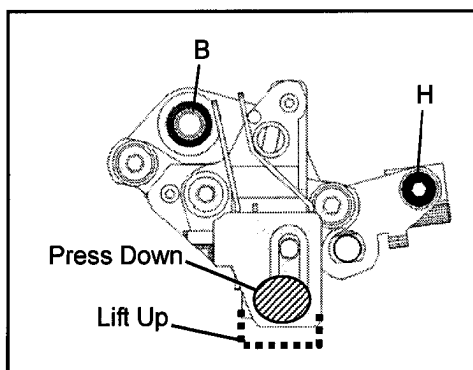

Figure 3-16-2
1. Press down and lift up the A/C Head lightly, and confirm that the CTL and CUE output level is within the specification. (Please refer to the figure 3-16-2 where to lift up and press down.)
2. If it is out of specification, adjust the height to maximize the CUE output level by loosening the screw (H) and turning the screw (B).
3. After adjustment, tighten the screw (H) and confirm the condition.